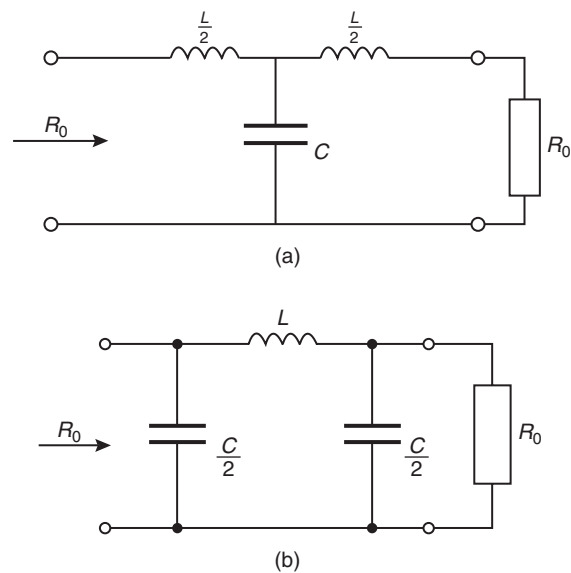
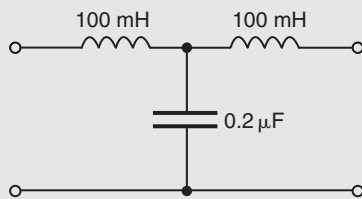
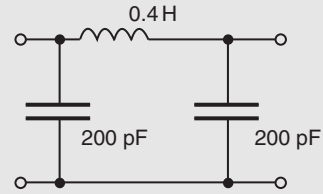
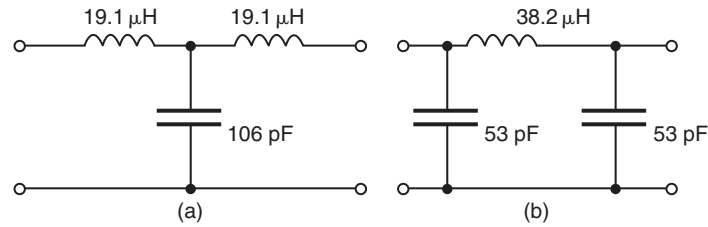

Figure 17.7
Figure 17.8
Figure 17.9
Figure 17.10
A low-pass symmetrical T-network and a low-pass symmetrical  $\pi$ -network are shown in Fig. 17.7. It may
**Problem 1.** Determine the cut-off frequency and the nominal impedance for the low-pass T-connected section shown in Fig. 17.8.
Comparing Fig. 17.8 with the low-pass section of Fig. 17.7(a), shows that:
**Problem 2.** Determine the cut-off frequency and the nominal impedance for the low-pass  $\pi$ -connected section shown in Fig. 17.9.
Comparing Fig. 17.9 with the low-pass section of Fig. 17.7(b), shows that:
- (a) A low-pass T-section filter is shown in Fig. 17.10(a), where the series arm inductances are each  $\frac{L}{2}$  (see Fig. 17.7(a)), i.e.  $\frac{38.2}{2} = 19.1\ \mu\text{H}$
- (b) A low-pass  $\pi$ -section filter is shown in Fig. 17.10(b), where the shunt arm capacitances are each  $\frac{C}{2}$  (see Fig. 17.7(b)), i.e.  $\frac{106}{2} = 53\ \text{pF}$